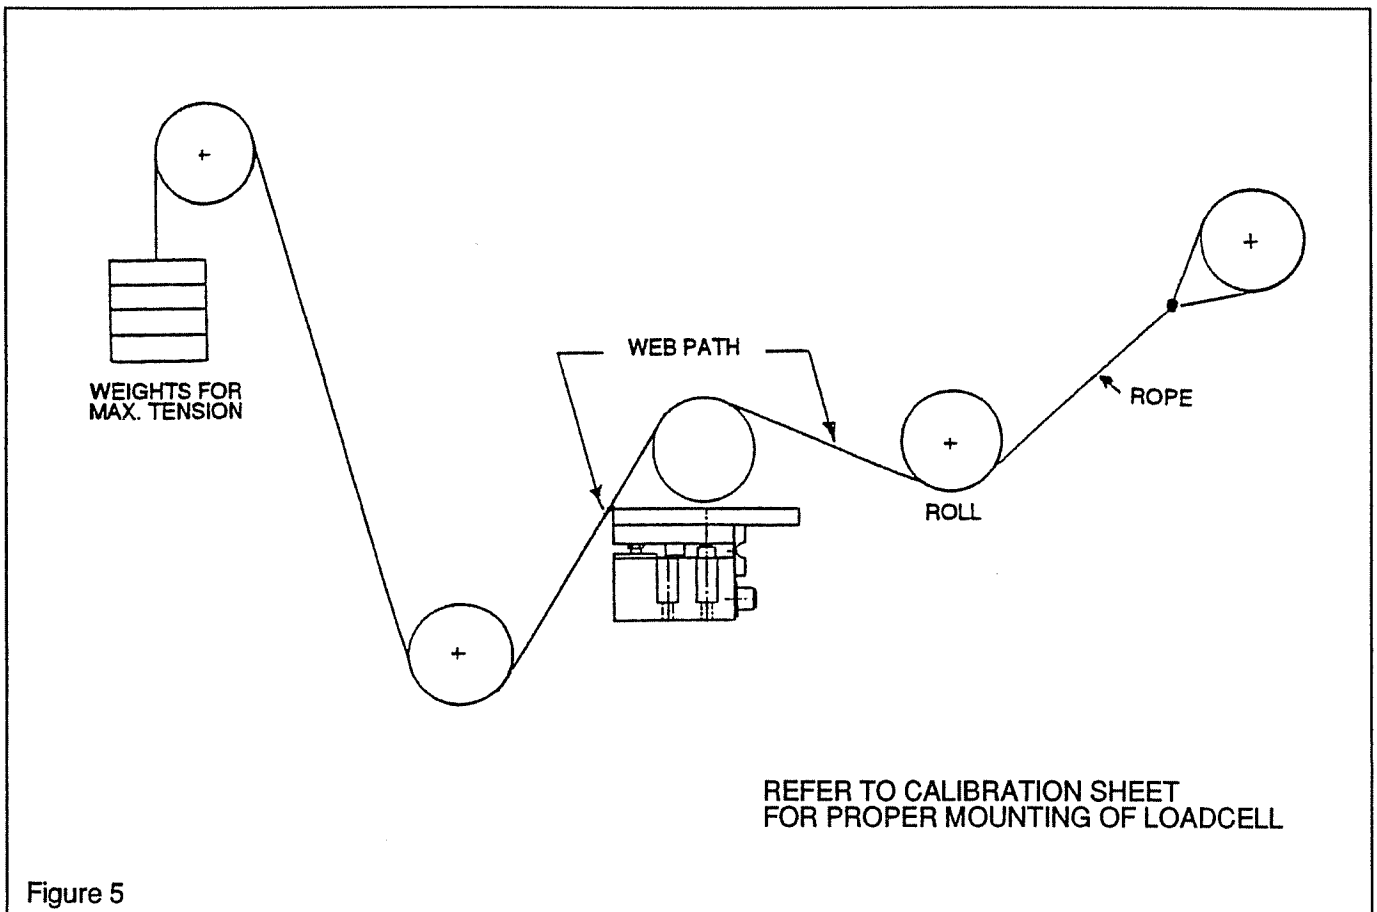

Figure 5
2. With one end of the rope secured, hang a known weight, equally over the roll so that the total tension is equal to the maximum strip tension specified on the calibration sheet, at the other end. (See Page 4, Figure 5.)